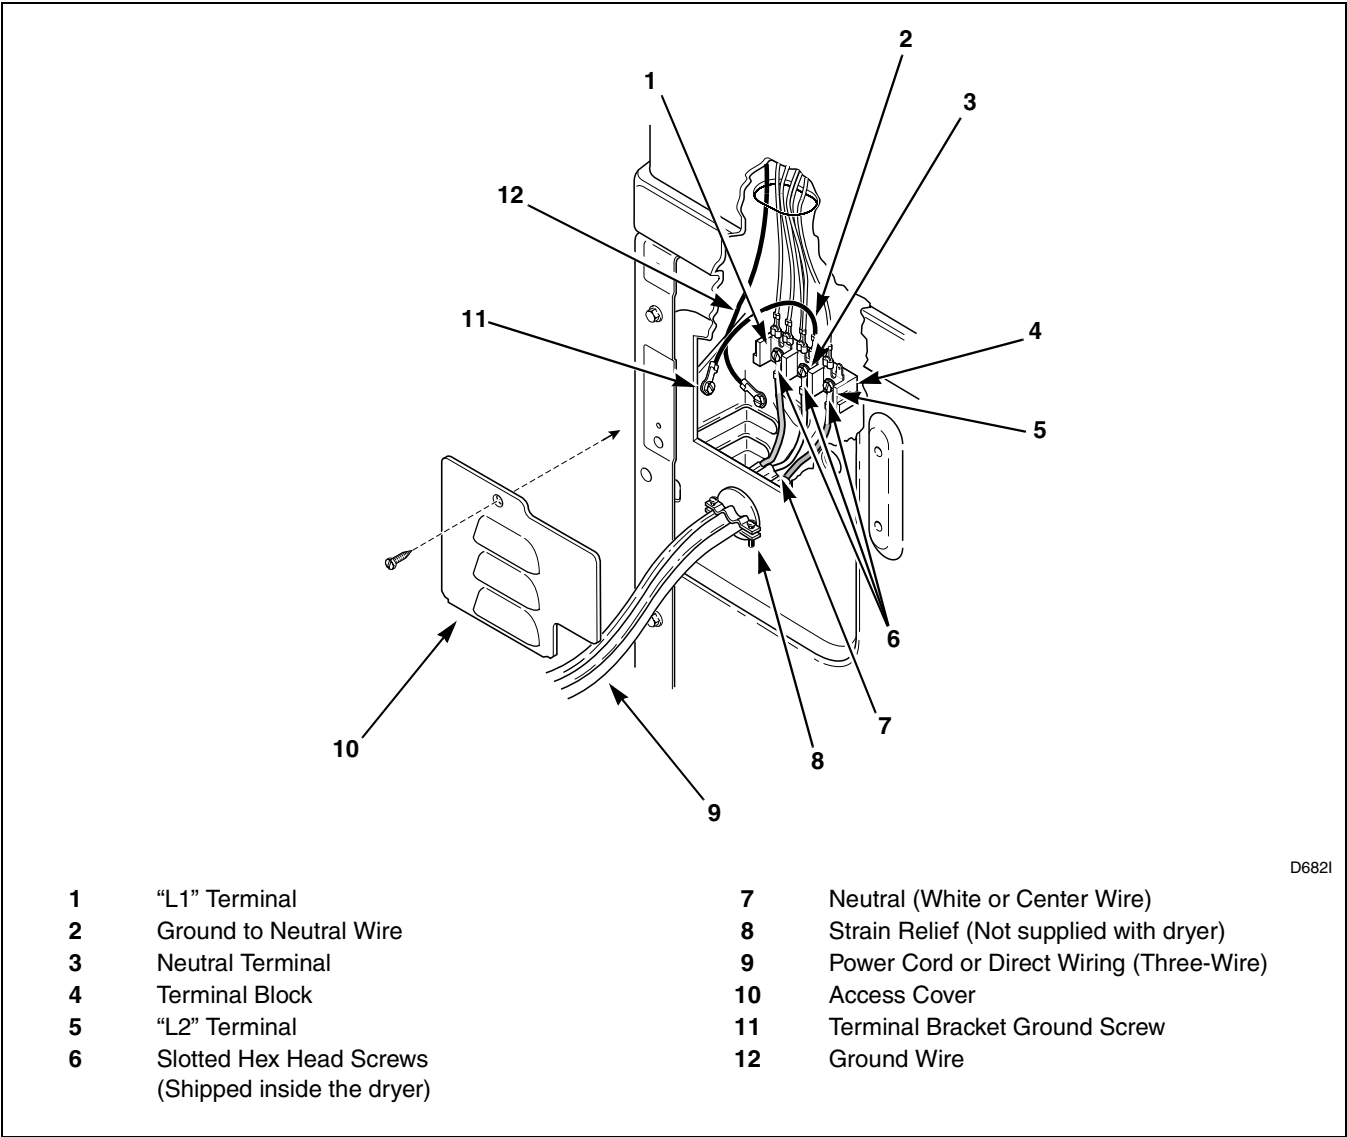

Figure 19
2. Insert ends of direct wire through power supply hole (containing proper strain relief) in rear of dryer cabinet. Refer to *Figure 19*. Connect the power cord, or direct wiring, to the appropriate terminal block terminals using the **three wire-binding (10-32 x 3/8") screws from the accessories pack in the envelope shipped inside the dryer cylinder**. If the dryer had previously been connected with a four-wire power cord, remove the four-wire power cord by reversing procedures under *Four-Wire Power Cord* instructions.